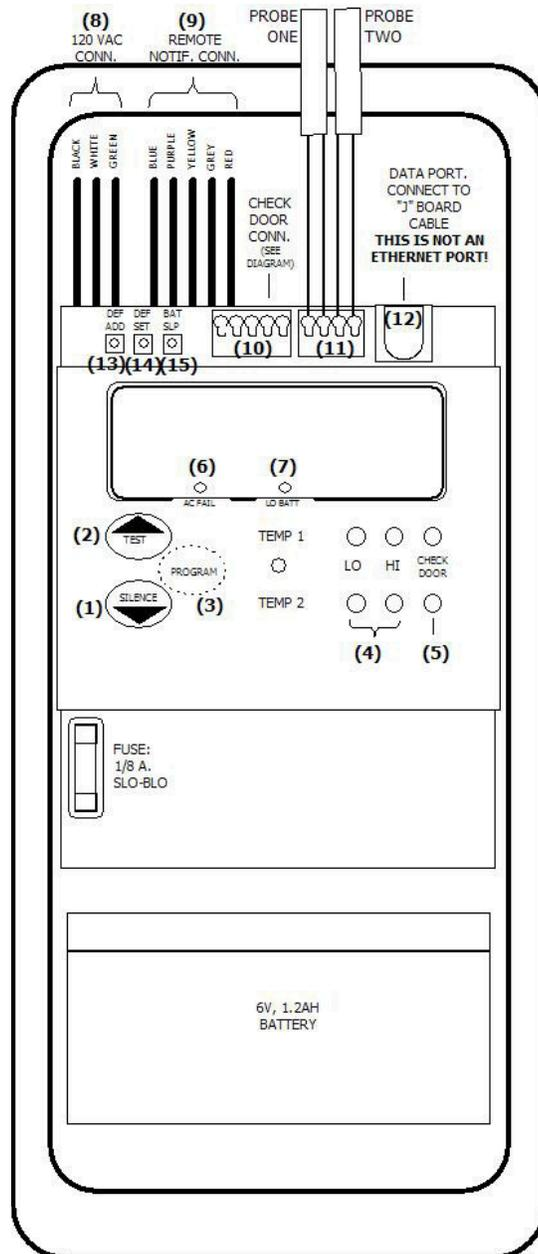

FIGURE 1
A) CONTROLS, INDICATORS & THEIR FUNCTIONS: (Refer to Figure 1.)
9. **REMOTE NOTIF. CONN.** - These wires provide a means for connecting the Datalarm to remote notification devices (Strobe lights, security systems, etc.) Outputs include normally open and normally closed dry contacts, and a pulse voltage output for activation of an automatic telephone dialer. (Wire color code is adjacent to Figure 1.)
11. **PROBE CONN.** (Probe Connection) - Used to connect the provided temperature sensor(s). Connect in accordance with Figure 1. Note: Probes do not have polarity.
the displayed temperature. Shielded wire (two conductors inside of the shield) must be used if the sensor line is extended. The sensor line may be shortened as well. When extended, connect the sensor to the two conductors inside of the shield. No connection is made to the shield at the sensor end of the extending wire. If a splice is made inside of the monitored compartment, seal the splice with silicone to prevent moisture from causing erroneous temperature readings. Connect the sensor wire to the terminal block as shown on **Figure 1**. Probes do not have polarity. If the sensor wire has been extended, connect the shield of the extending wire to the leftmost position of the **Check Door Connection** terminal block. (Labeled GRD, Figure 2A & 2B, page 8. Also see #10 on Figure 1.) The shield may also be connected to the grey Remote Notification wire. (Labeled GRD, see #9, Figure 1.) If the probe wire enters the alarm enclosure directly from the monitored compartment, seal the opening to prevent moisture from entering the alarm. **Important! Do not run sensor line in conduit with line voltage. "Bouncing" or erroneous readings will result.**
Press the hidden Program button (Page 2, Figure 1, #3) to enter Program Mode. When in Program Mode, the “Silence“ and “Test“ buttons become means for selecting new parameter values. When a new value has been selected using the Silence or Test buttons, press Program again to move to the next variable parameter. **Note: Once Program Mode is entered, the Program process must be completed for any changes made to be stored as new operating parameters.** There is no provision for moving backwards through the program process and there is no provision for manually exiting without completing the programming process.
- without completing the programming process.) If this situation has been created and the selection of **OFF** is not the desired choice, there are two ways to correct it: 1) Stop programming and wait for two minutes. The Datalarm is designed so that if programming is interrupted for this period of time it will automatically abort the programming process and return to Run mode, operating at the parameters that existed before programming began. 2) Press the DEF. SET. Button. (Page 2, Fig. 1, #14) This will restore all default values, including “Autoset ON”.